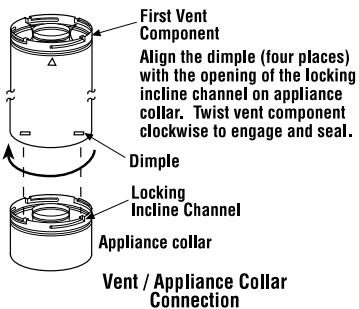

Figure 17
Secure Vent SV4.5 direct vent system components are unitized concentric pipe components featuring positive twist lock connections (see *Figure 17*).
To attach a vent component to the appliance collar, align the dimpled end over the collar, adjusting the radial alignment until the four locking dimples are aligned with the inlet of the four inclined channels on the collar (refer to *Figure 17*). Push the vent component against the collar until it fully engages, then twist the component clockwise, running the dimples down and along the incline channels until they seat at the end of the channels. The unitized design of the **Secure Vent** components will engage and seal both the inner and outer pipe without the need for sealant or screws. If desired, a #6 x 1/2" screw may be used at the joint, but is not required as the pipe will securely lock when twisted.
Secure Vent SV4.5 direct vent system components are unitized concentric pipe components featuring positive twist lock connection, (refer to **Figure 17 on page 13**). All of the appliances covered in this document are fitted with collars having locking inclined channels. The dimpled end of the vent components fit over the appliance collar to create the positive twist lock connection.
D. Attach vent components to appliance - To attach a vent component to the appliance collar, align the dimpled end over the collar, adjusting the radial alignment until the four locking dimples are aligned with the inlets of the four incline channels on the collar (refer to **Figure 17 on page 13**).